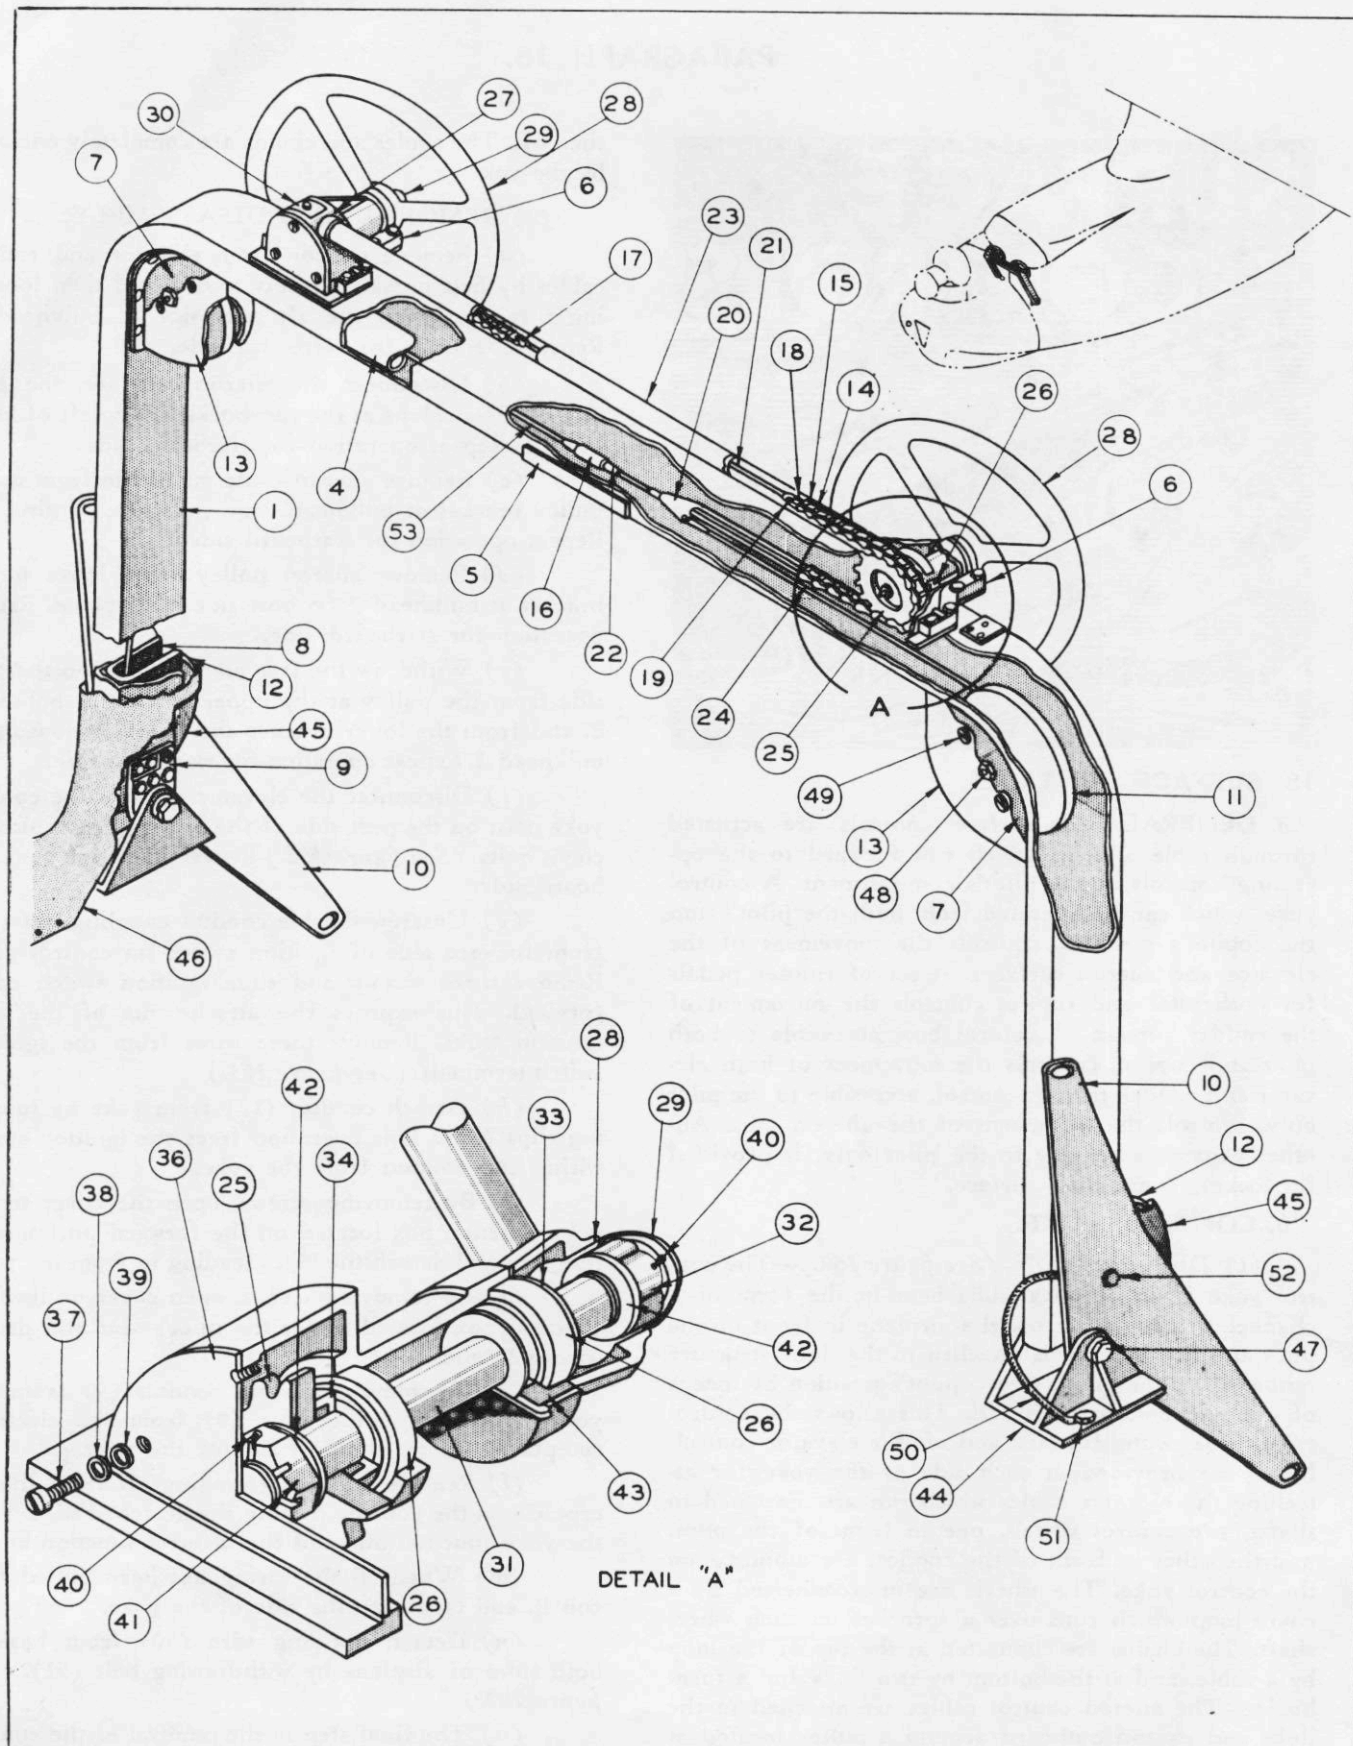
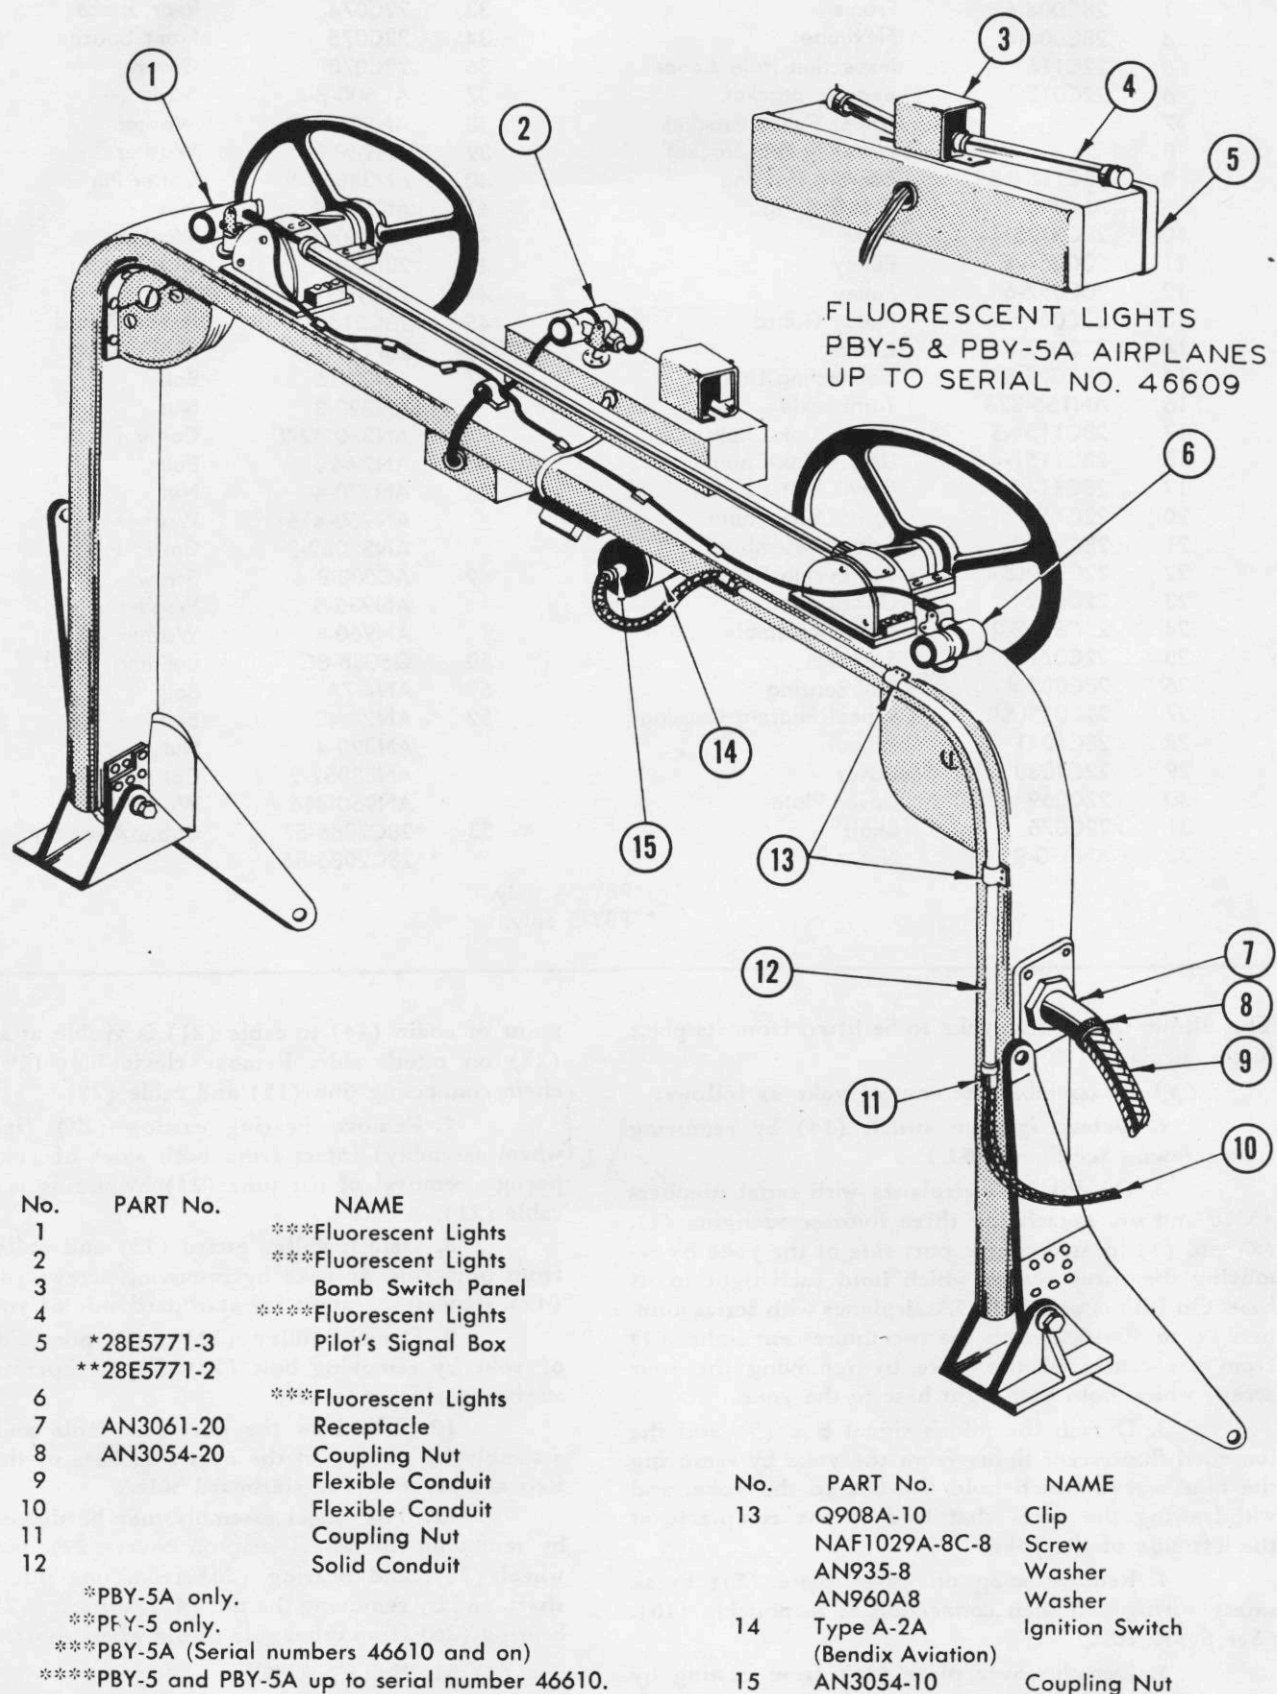

Figure 162—Control Yoke
Figure 163—Control Yoke—Electrical Equipment
(1) **DESCRIPTION.** (See figure 162.)—The control yoke is an elliptical tube bent in the form of a channel. It extends across the airplane in front of the pilot and copilot, and is attached to the floor structure outboard of the pilot's and copilot's position by means of a single bolt at each end. This allows the control yoke to be swung forward and aft for elevator control. Masts are provided at each side of the yoke for attaching the elevator cables which run aft. Fastened to shafts, two control wheels, one in front of the pilot, and the other in front of the copilot, are mounted on the control yoke. The wheels are interconnected by a chain loop which runs over a sprocket on each wheel shaft. The chains are connected at the top of the loop by a cable, and at the bottom by two links and a turnbuckle. The aileron control cables are attached to the links and extend outboard around a pulley located at each elbow in the control yoke, down to a pulley located in the base of the yoke at each side of the airplane, and
(f) Disconnect the elevator cable at the control yoke mast on the port side of the airplane by removing clevis bolts. (See figure 162.) Repeat operation for starboard side.
(g) Unscrew flexible conduit coupling nut (15) from forward side of ignition switch on control yoke. Remove three screws and slide ignition switch cover forward. This exposes the attachments of the four ignition wires. Remove these wires from the ignition switch terminals. (See figure 163.)
(n) Detach bonding wire (50) from base at both sides of airplane by withdrawing bolt (51). (See figure 162.)
1. Detach ignition switch (14) by removing four screws. (See figure 163.)
2. On PBY-5A airplanes with serial numbers 46610 and on, detach the three fluorescent lights (1), (2) and (3) located on the port side of the yoke by removing the three screws which hold each light to its base. On PBY-5 and PBY-5A airplanes with serial numbers up to 46610, detach the two fluorescent lights (4) from the center of the yoke by removing the four screws which hold each light base to the yoke.
3. Detach the pilot's signal box (5) and the loosened fluorescent lights from the yoke by removing the nine screws which hold the box to the yoke, and withdrawing the wires that lead to the receptacle at the left side of the yoke.
4. Remove snap on cover plate (5); break safety wiring and then connection at turnbuckle (16). (See figure 162.)
5. Detach cover plate (36) from casting by removing three screws.
6. Rotate pilot's wheel (28) until attaching
1. Assemble the control wheel assembly by reversing the removal procedure as outlined in paragraph b., (2), (p), 11.
2. Reverse procedure outlined in paragraph b., (2), (p), 10 by running the port side cable and chain assembly up through the port side of control yoke until the cable end is visible at the bottom opening at the center of the yoke. To insure that cable does not slip back, tie a wire to cable terminal and hook around opening. Repeat operation for starboard side.
3. Attach pulleys (11) and (12) to the yoke on the port side by inserting bolts (48) and (52), and at the same time run the cable over these pulleys. Attach pulley guards (13) and (45) in place with two screws each. Repeat procedure for starboard side. (See figure 162.)
4. Place wheel assemblies loosely in position on both sides of yoke; pass cable (21) and starboard chain (14) around sprockets of starboard wheel assembly, then run cable end through tube (23) and attach to connecting link (15) on port side chain by means of clevis bolt (19). Before the connecting link is attached, the port side chain must be passed over the sprocket of the port side wheel assembly.
5. Nest tube (23) properly in place in both port and starboard bearing castings (27). Insert the eight screws, and attach port side bearing castings firmly to the yoke. Repeat procedure for starboard side.
6. Connect cables (53) and (24) at center of yoke by attaching turnbuckle and tightening to correct tension. Safety turnbuckle with safety wire and then snap cover plate (5) in place.
7. Attach the pilot's signal box (5) to the yoke by means of nine screws after threading the elec-
trical wires down the port leg of the yoke and out through the receptacle (7). (See figure 163.)
8. On PBY-5A airplanes with serial numbers 46610 and on, attach the three fluorescent lights (1), (2), and (3) to their bases on the yoke by means of three screws. On the PBY-5 and PBY-5A airplanes up to serial number 46610, attach the two fluorescent lights (4) to the center of the yoke by means of four screws through their bases.
9. To complete assembly of control yoke, attach ignition switch (14) to its bracket on the yoke by means of four screws.
1. Install control yoke assembly in airplane by attaching it to base (44) by means of bolt (47) at both sides of airplane. By means of the strap, and snap fasteners, attach fabric boot (46) in place at base of control yoke on both sides of airplane. (See figure 162.)
2. Attach bonding wire (50) to base (44) by means of bolt (51) at both sides of airplane.
3. Reverse removal procedure of paragraph b., (2), (1) by uncoiling wires at port side of yoke and threading the wires back through the conduit, to the yoke junction box outboard of the pilot's seat and to the inverter junction box under the pilot's seat.
6. Attach flexible conduit (9) to receptacle (7) on yoke by screwing on coupling nut (8). (See figure 163.)
7. Attach conduit (12) to yoke by means of clips (13); attach the four ignition switch wires to the ignition switch terminals; attach the conduit to the ignition switch case by screwing on the coupling nut (15); replace ignition switch cover and fasten in place with the three screws.
8. Attach elevator and aileron cables to yoke by reversing the removal procedure in paragraph b., (2), (a) through paragraph b., (2), (f). For correct tension of cables, refer to Section IX, Table A.